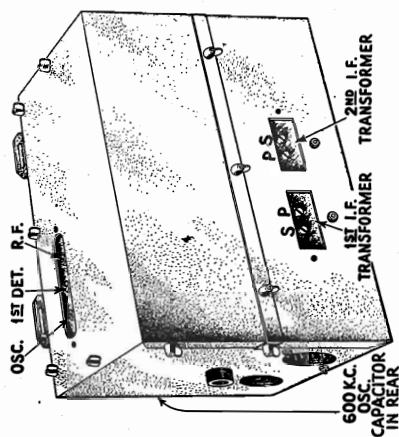

Figure 24—Location of Radio Frequency, Oscillator and Intermediate Frequency Adjustments
6. With the socket wrench, adjust the oscillator (see Figure 24), the first detector and the R. F. line-up capacitors until a maximum deflection is obtained in the output meter.
7. Set the oscillator at 600 K. C. Tune in this signal with the receiver and adjust for a deflection in the output meter. Now adjust the 600 K. C. series capacitor, Figure 24, until maximum output is obtained. Rock the tuning capacitor back and forth while making this adjustment.